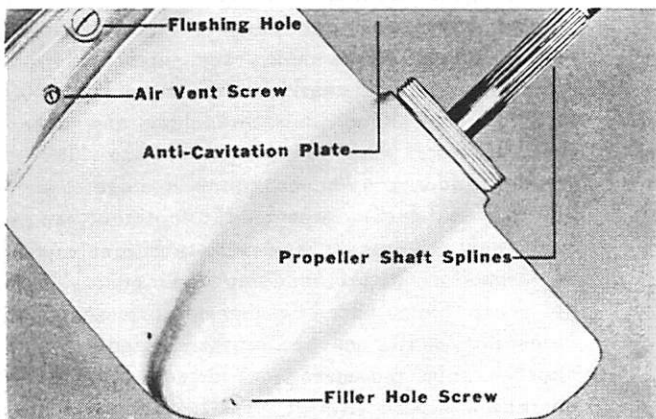

Figure 16. Gear Housing
1. Replace flushing hole screw (Figure 16) with new flushing hole screw (10-31498), which has 1/16" hole drilled thru center, or drill 1/16" hole in center of screw.
2. Apply thin coat of MULTIPURPOSE Quicksilver Lubricant (92-30239) on splines of propeller shaft. (Figure 16)
1. Remove filler hole screw from gear case, located as shown in Figure 16 or just to left of air vent screw, being careful not to lose accompanying washer.
3. Remove air vent screw from air vent hole just above anti-cavitation plate, being careful not to lose accompanying washer. (Figure 16)
5. Replace air vent screw and washer into air vent hole and tighten before removing tube from filler hole when hole is in position as shown in Figure 16. This will create an airlock and hold oil in gear case until filler hole screw is replaced.